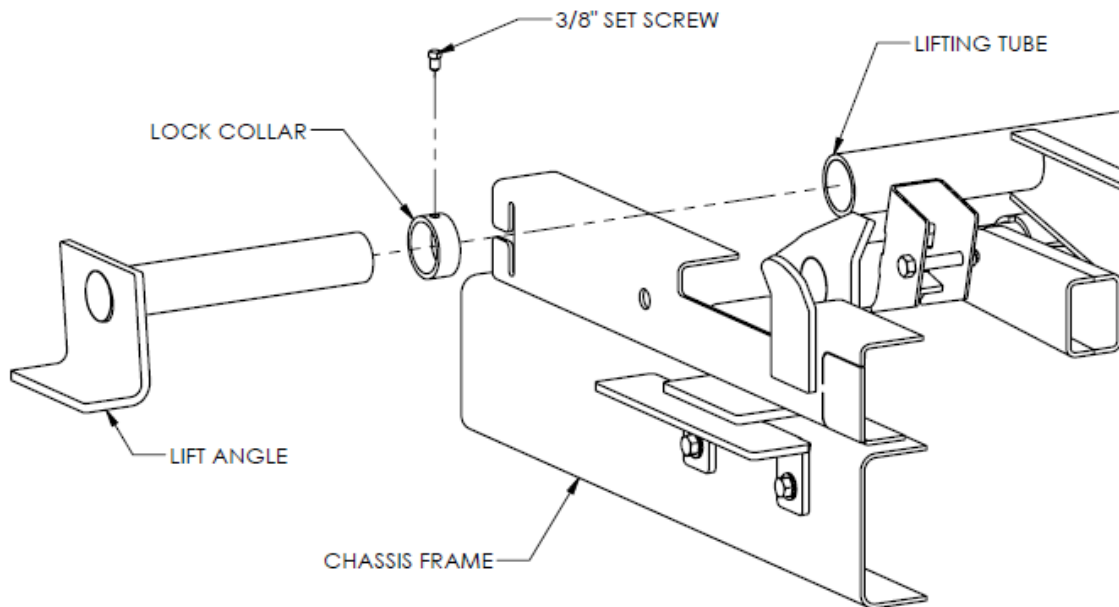

FIGURE 7
- Slide a lock collar onto each lifting shaft. Slide a lifting shaft with collar into each end of the hoist lifting tube (*Figure 7*).
11. Install all grease fittings. For grease fitting locations, refer to Figure 7. Torque each grease fitting to 70 in. lb. Grease all grease fittings upon installation.